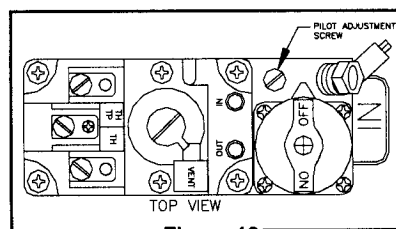

Figure 10
4. Replace screw cover with gasket over pilot adjusting screw. Refer to Figure 10.